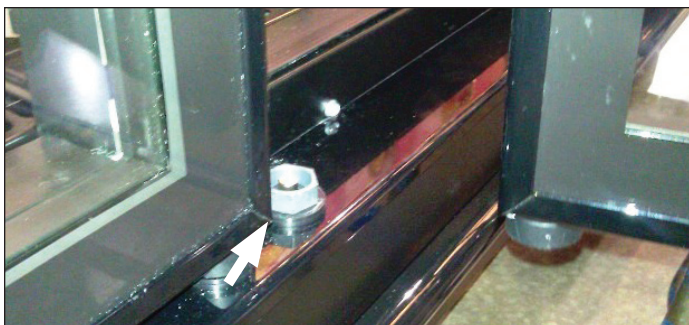

Fig 3.10 The door power coupling fits into the frame power coupling.
5. Lift the bottom of the door free of the frame power coupling (Fig. 3.10), and carefully set aside the door.
2. Lifting the door, fit the door power coupling on top of the frame power coupling receptacle (Fig. 3.10), thus creating the electrical connection. Let the weight of the door rest on the front sill.